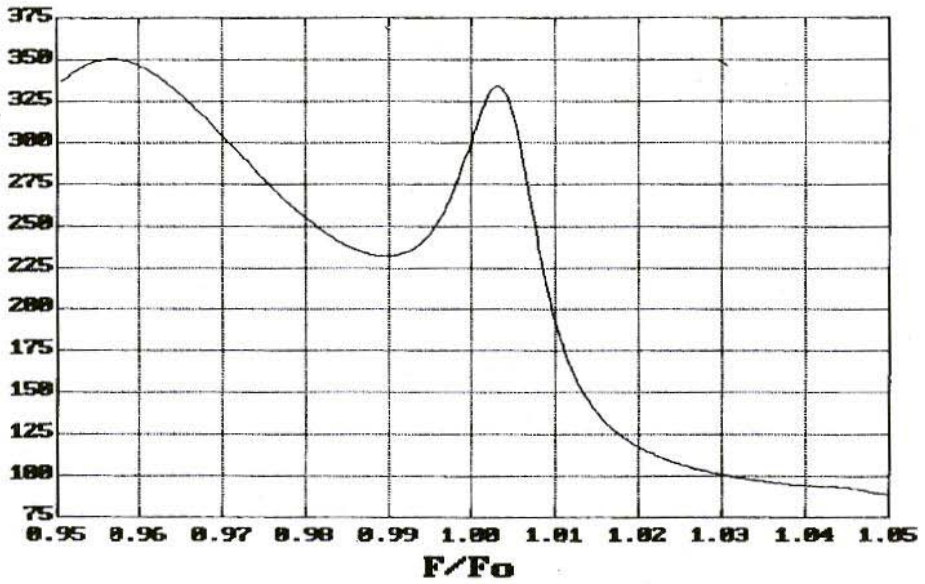
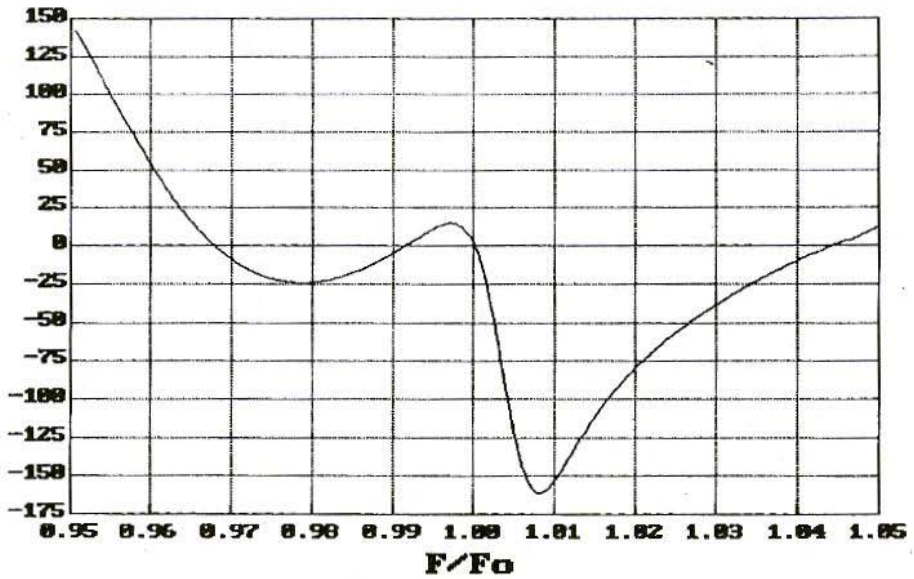

Fig.2
Fig.3
Fig.2 shows the input resistance. The design value of 300Ω is achieved at 3 frequencies,  $f = 0.97, 1.00, \text{ and } 1.006$ . Maximum resistance is 350Ω at  $f = 0.957$ , with a secondary peak of about 330Ω at  $f = 1.003$ . The resistance is between 200 and 350Ω for frequencies from 0.95 to just below 1.01. Input reactance is plotted in Fig.3. Four resonances ( $X_{in} = 0$ ) occur at  $f = 0.968, 0.992, 1.00, \text{ and } 1.044$ . The maximum reactance of about +140Ω (inductive) occurs at  $f =$
2. *ibid.*, Eq. (20), p. 24-14.
7. *ibid.*, Figs. 2(A), 2(C), p. 25-3.